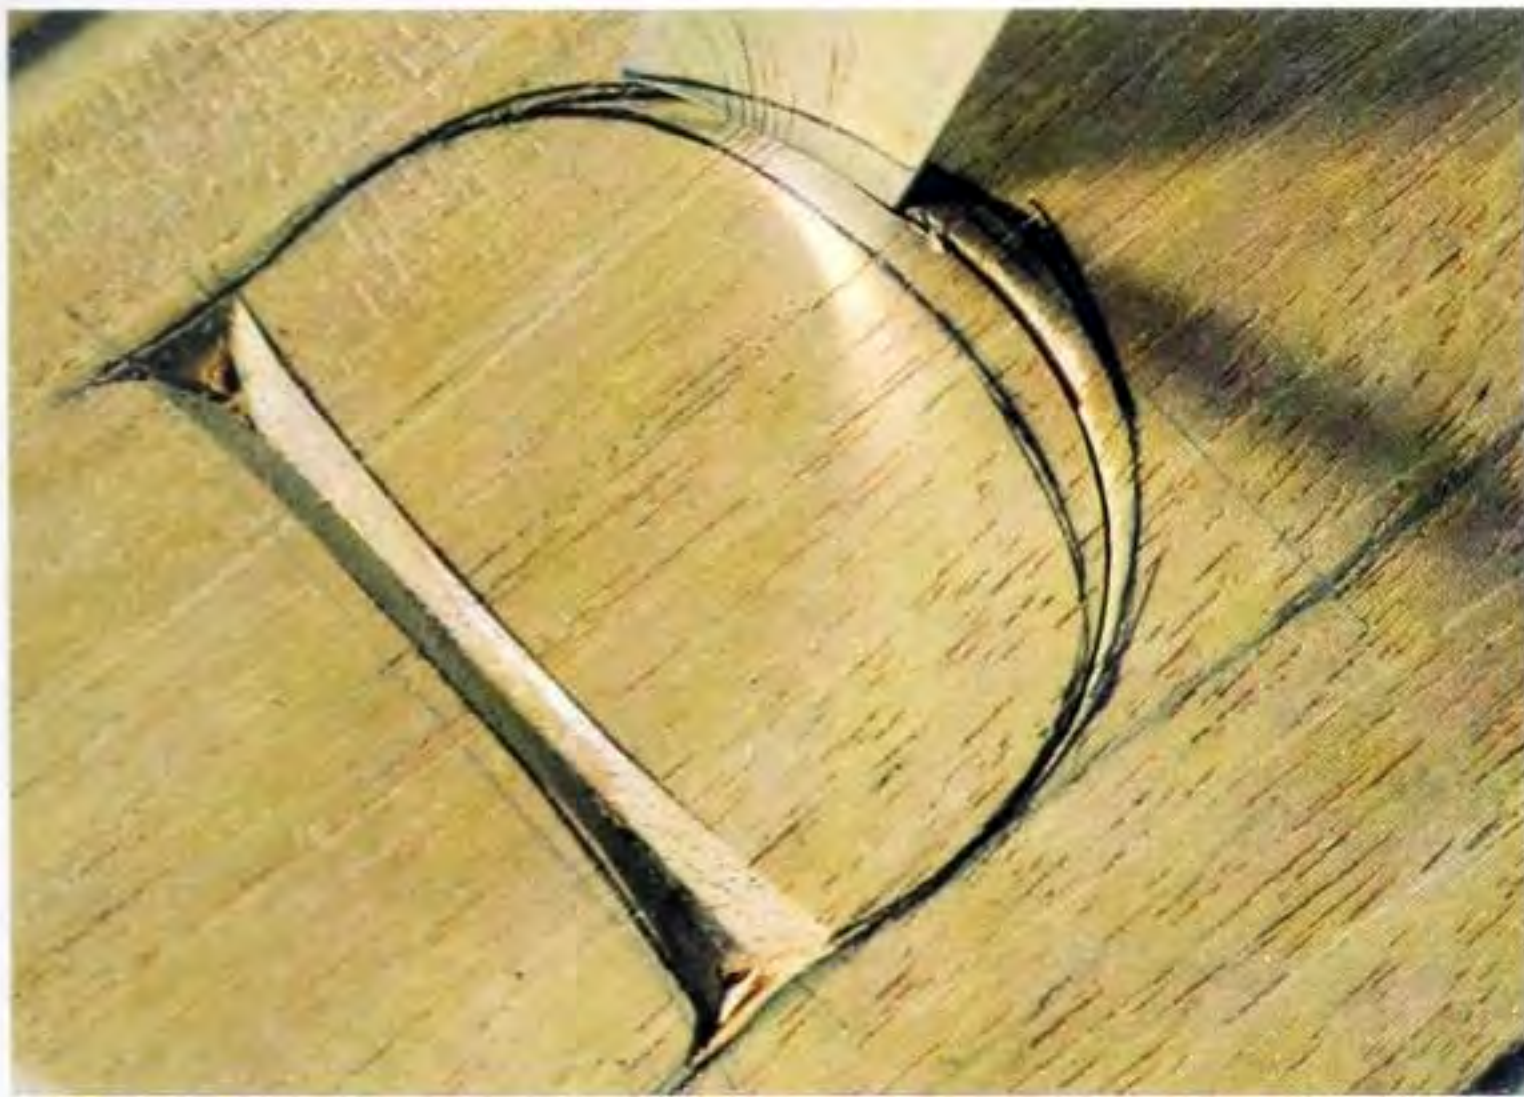

Fig 10.19 Stabbing the centre of the lobe after the upright is finished.
- 1 Refer to Figs 10.19 to 10.22. Incise and waist the upright as for the letter A, and cut the one-sided serifs at both ends.